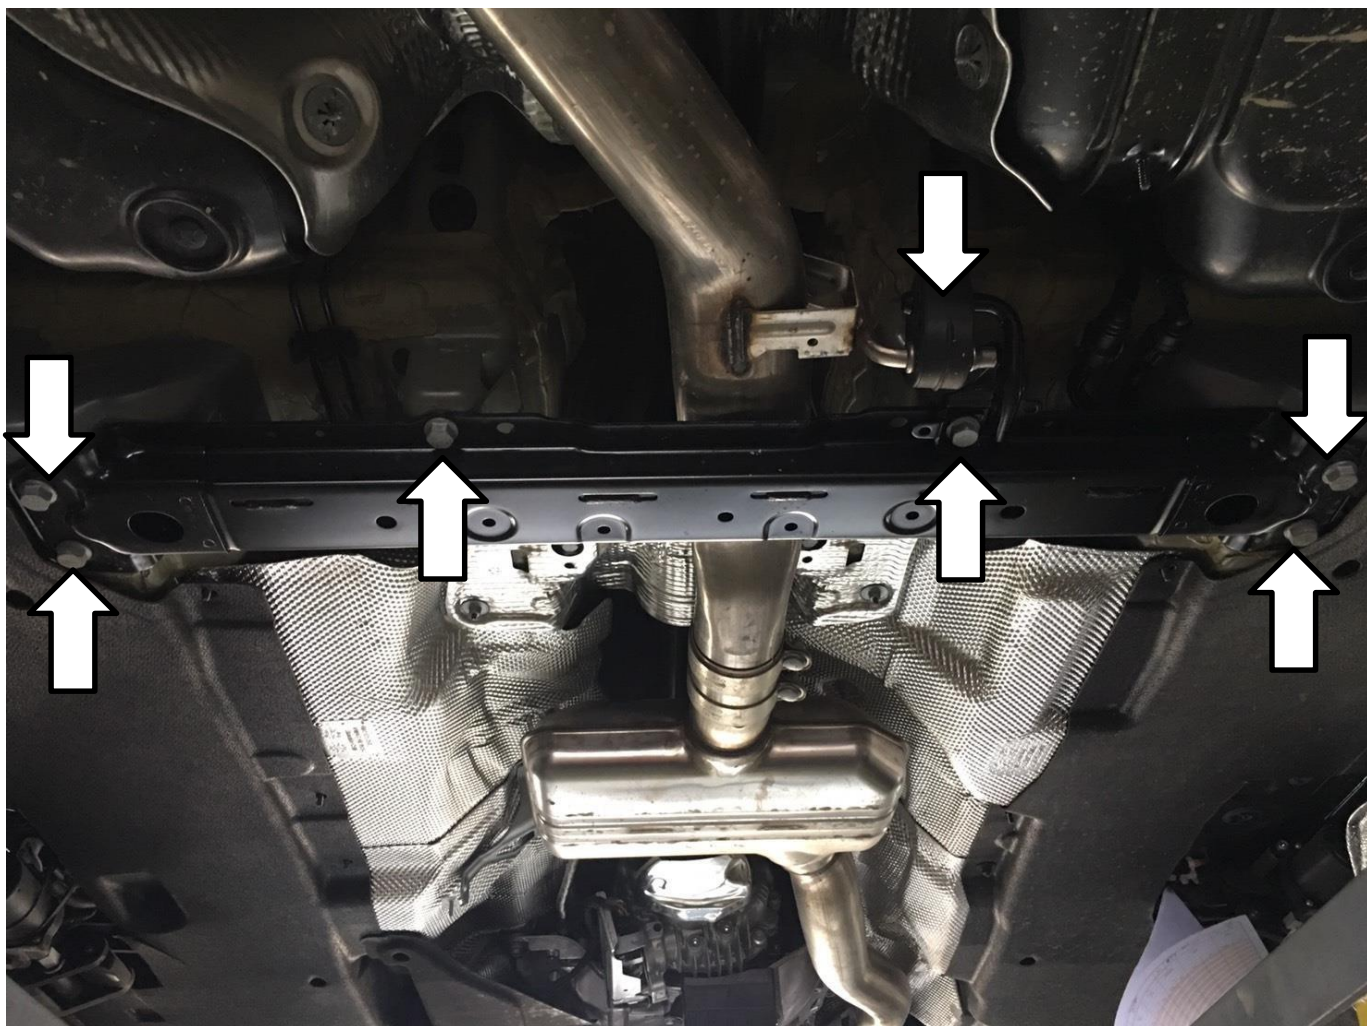

Fig. 2
2. Remove the lower bracket and then remove the middle bushes. (Fig.2)